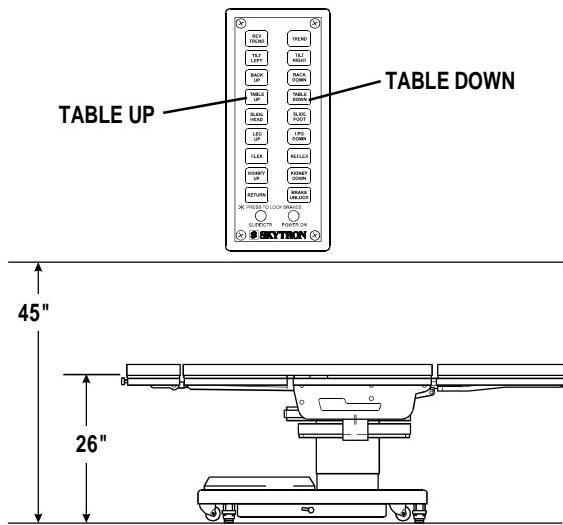

Figure 2-7. Elevation Function
**e. Elevation.** To raise table top, press the TABLE-UP button (figure 2-7.). The table will lift a patient weight of 500 pounds up to a maximum height of 45". To lower the table top, press the TABLE-DOWN button. The table top will go down to a minimum height of 26" (minus pad).